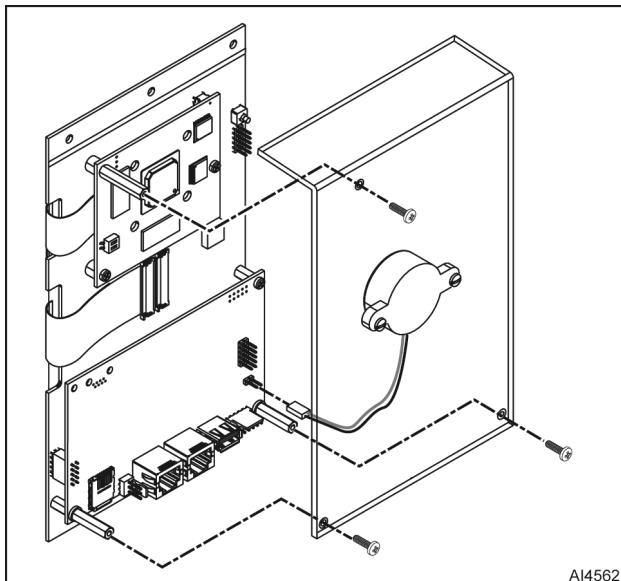

Fig. 6
4. Disconnect buzzer electrical cable connector (Fig. 6) from touch panel / display assembly.